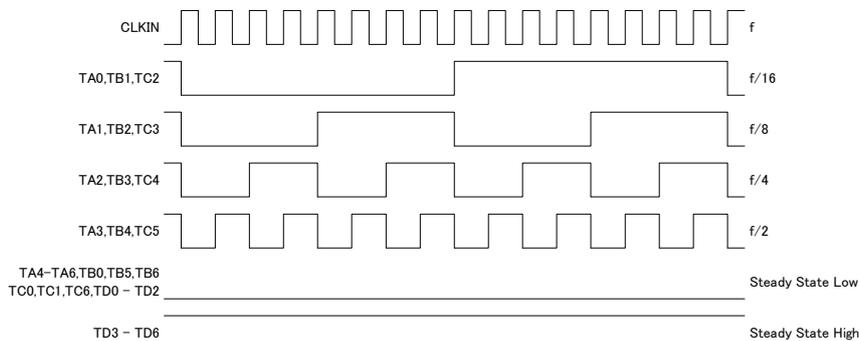

Figure 1. 16 Grayscale Pattern
- (a) All Typ. Values are at VCC=1.8V, Ta=25°C. The 16 Grayscale Pattern (Figure 1.) inputs test for a typical display pattern